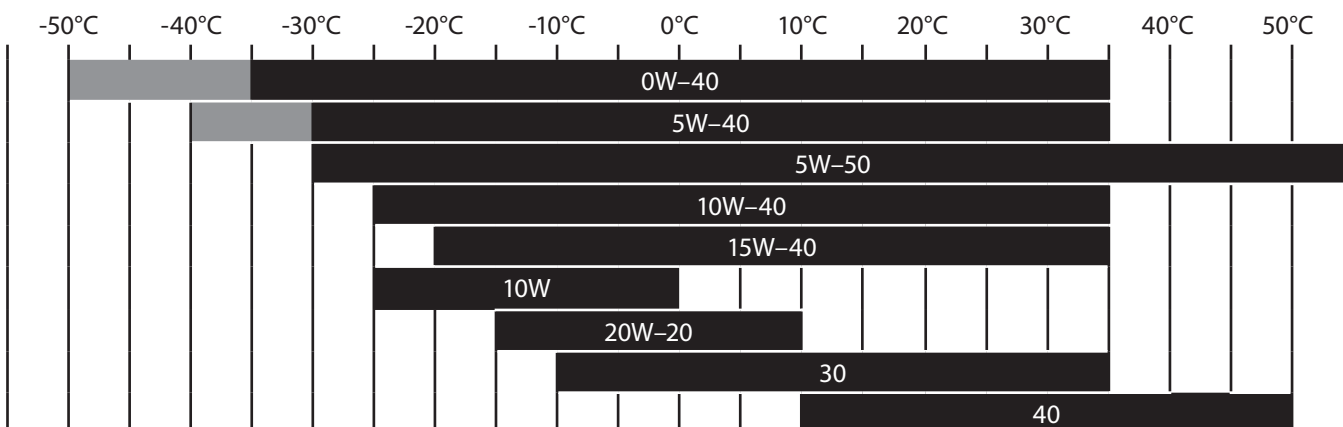

Fig. 11
- ➔ The graph (fig. 11) specifies the motor oil classes for the given temperature range in the case that Class SAE 14 W40 motor oil is not available.